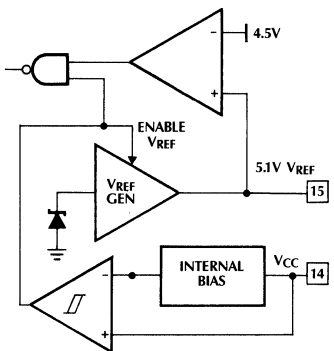

Figure 10. Under-Voltage Lockout Circuit
When the current (sensed on pin 9) reaches the 1.5V limit, the PWM cycle is terminated. The flip flop (figure 10) turns on current source I(1) to charge C_{RST} and remains on until CLOCK goes high. The magnitude of current source I(1) is $.25 \times I_{SET}$ where I_{SET} is the oscillator charging current. When C_{RST} is charged to 2.3V, a soft start reset occurs. The number of times the PWM cycle is terminated due to over-current is "remembered" on C(RST). Over time, C(RST) is discharged by R(RST) providing a measure of "forgetting" when the over-current condition no longer occurs.